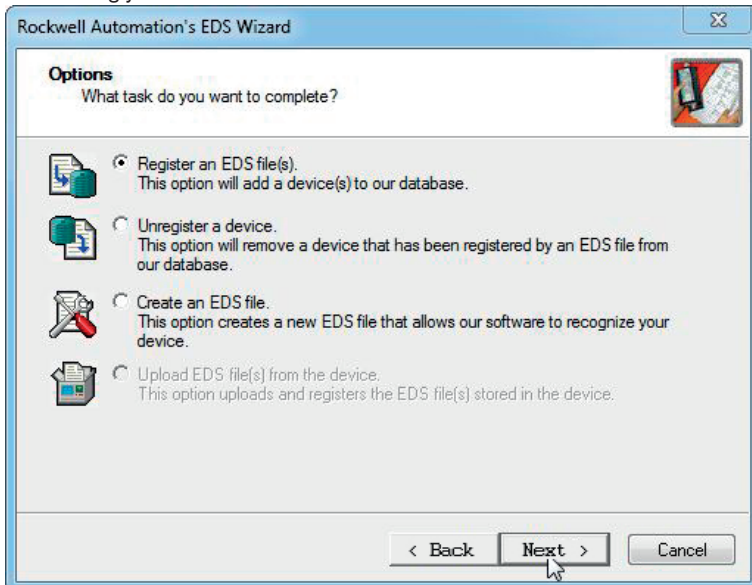

Figure 3: Registering the EDS
- The second step involves importing an EDS file by selecting the “Register an EDS file(s)” option (see figures 3, 4, 5, 6, 7 and 8). Select the appropriate EDS file for the respective product and implement it accordingly.